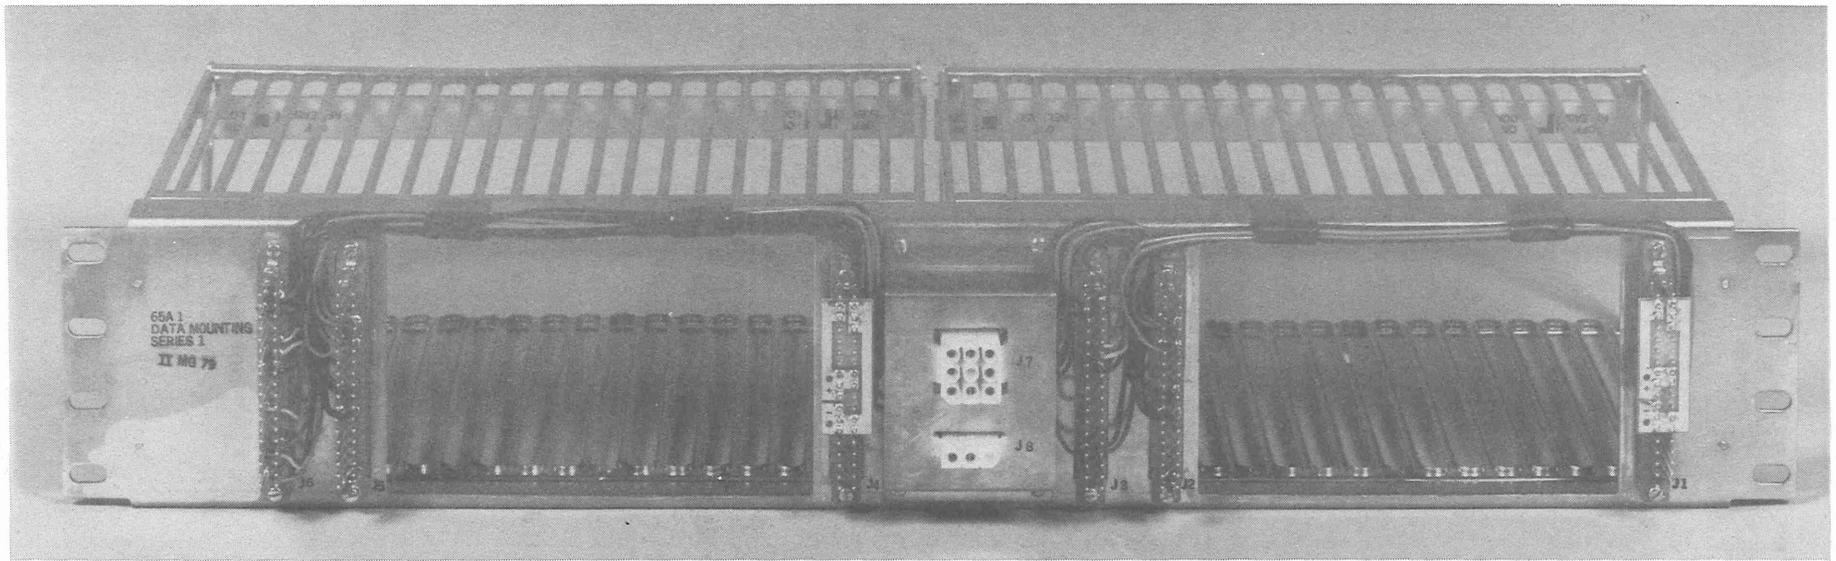

Fig. 3—Rear View—65A-Type Data Mounting
**2.04** A low voltage alarm is provided on each of the four power units in the 65A-type data mounting. The alarm consists of a contact closure (accessible through the backplane connectors shown in Fig. 3 and 4) and a red indicator lamp on each power unit faceplate. The alarm contacts are rated at 100 volts and 100 milliamperes maximum.